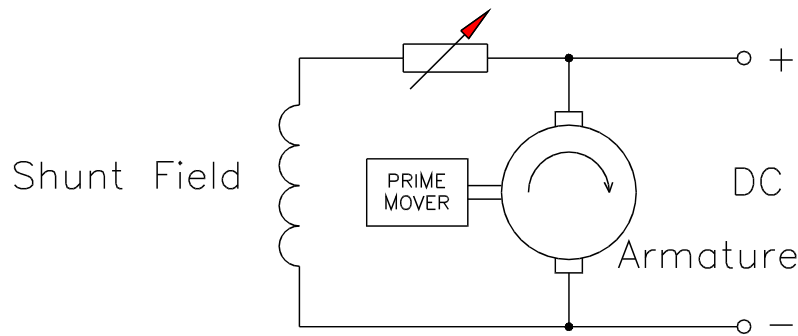

Figure 43
24. In a practical armature the coils are evenly spaced around the armature so that their outputs overlap. The greater the number of coils, the more constant the output, as in Figure 43.